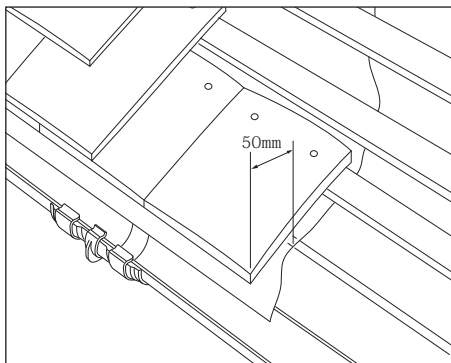

Fig. 6 – Ensure sufficient overhang into gutter
- 3 If gutter is not fixed, an overhang of 50mm should be allowed (Fig. 6).